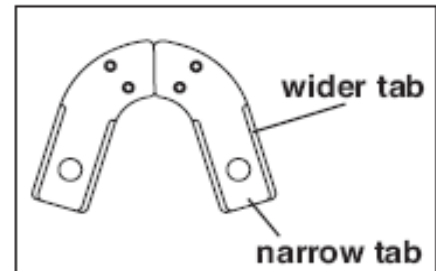

Figure 5
- 4) Place dynamic hinge into outer section rail by threading narrow tab (See Figure 5) of dynamic hinge into inside of the rail with the wider tab on the outside of the rail (See Figure 6).